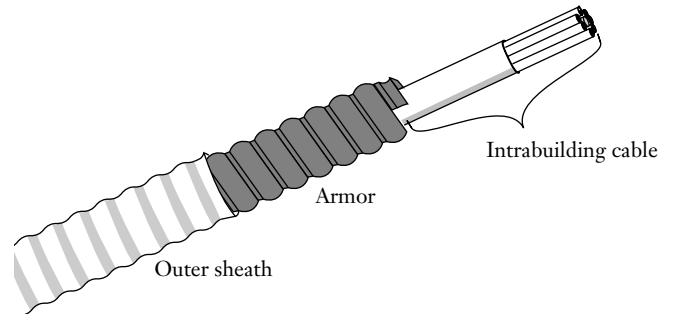

Figure 1
1.2 Corning Cable Systems Interlocking Armored Cables are rugged, high performance cables designed for indoor tray applications (Figure 1). Each cable is composed of a standard Corning Cable Systems intrabuilding design surrounded by an interlocking armor. The armor is jacketed with a flame-retardant sheath.